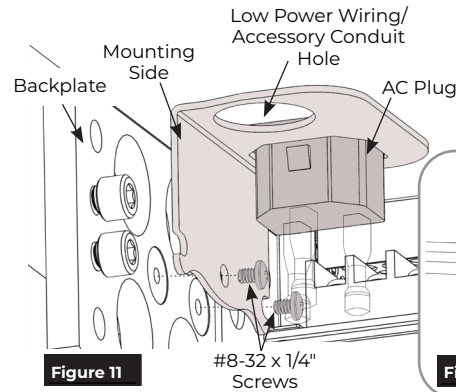
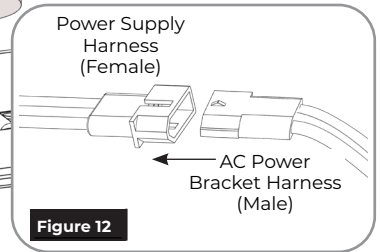

Figure 11
Figure 12
- Place the mounting side of the bracket against the backplate with the AC plug and conduit hole facing up toward the frame header. (Figure 11)
- Secure the bracket to the backplate using two (2) #8-32 x 1/4" machine screws.
- Plug the AC Power bracket's harness into the power supply harness. (Figure 12)